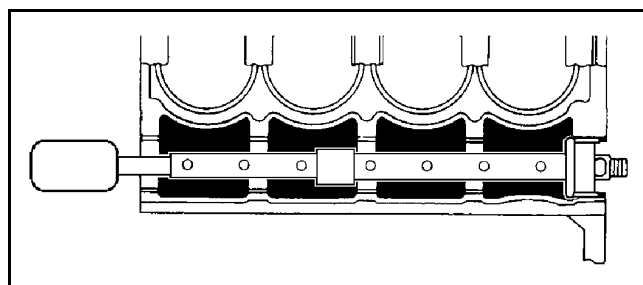

Figure 3-176
2. Using a camshaft bearing installation tool, install the camshaft bearings. **See Figure 3-176.**